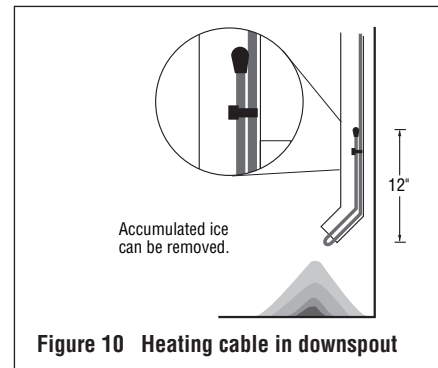

Figure 10 Heating cable in downspout
- Run heating cable along gutters and into downspouts, ending below the freezing level. Permanent attachment of the cable to the gutter bottom is not necessary. Loop the heating cable in downspouts. Do not leave the end of the Gardian in air at the end of the downspout as shown in Figure 10.